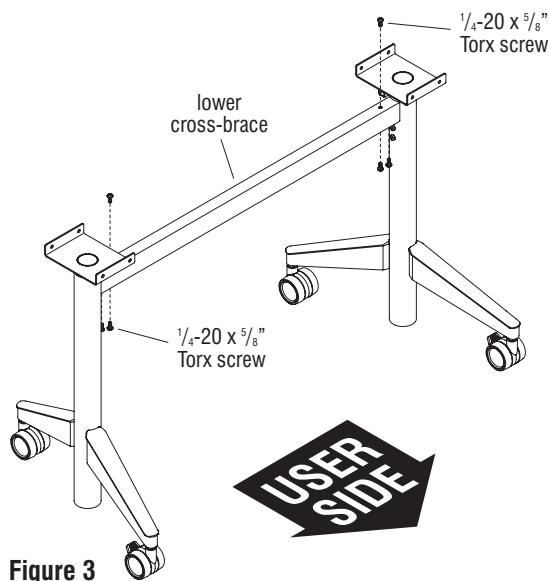

Figure 3
10. Align the cross-brace mounting holes with the cross-brace attachment bracket mounting holes on one leg. Secure brace to the bracket using one  $\frac{1}{4}$ -20 x  $\frac{5}{8}$ " Torx screw on the top hole location and two  $\frac{1}{4}$ -20 x  $\frac{5}{8}$ " Torx screws on the underside hole locations. Repeat this process to secure the opposite leg to the brace (Figure 3 & Details B & C).